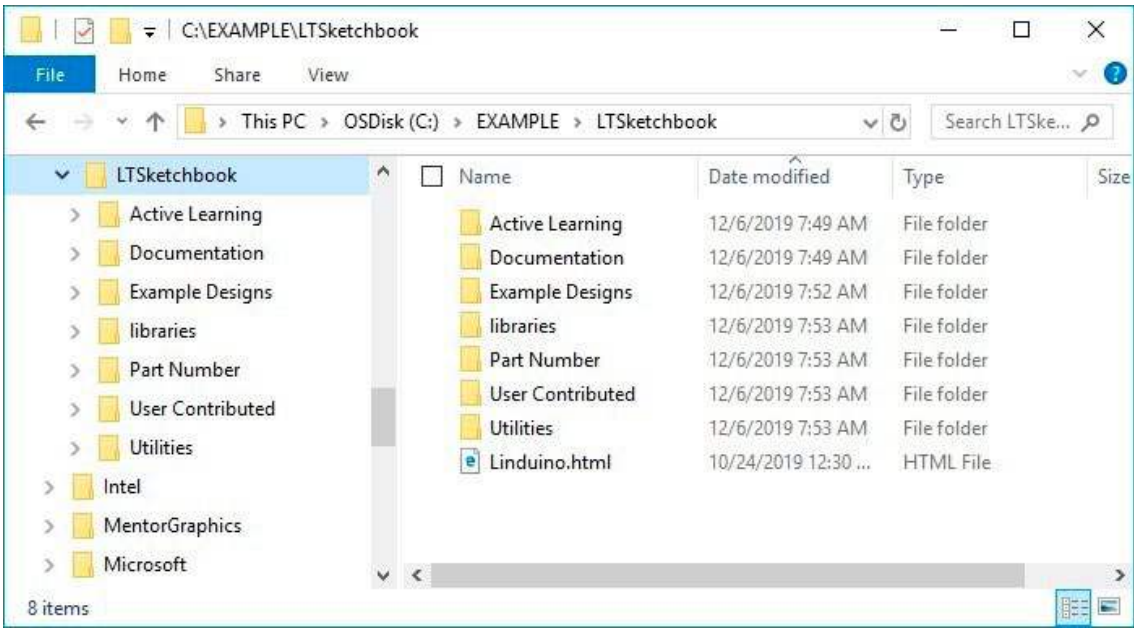

Figure 11. Documentation Directory
**Documentation Directory:** Contains *html* documentation for the provided code base. Documentation for all of the BMS ICs can be accessed by opening the *Linduino.html* file, as found in the main sketchbook directory (Figure 11) and in the Documentation directory.